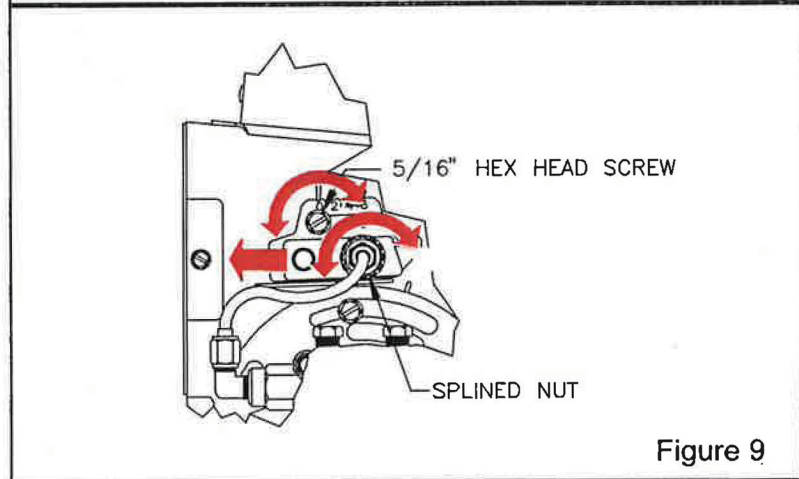

Figure 9
Step 6. To change the head setting for different firing rates, simply loosen the splined nut and 5/16” hex head screw only. See Figure 9. Adjust the nozzle line assembly by pulling the adjusting plate forward and positioning it to the desired numerical setting. Refer to the appliance manufacturer’s instructions or the Beckett OEM Specification Guide for OEM settings. See Figure 10.